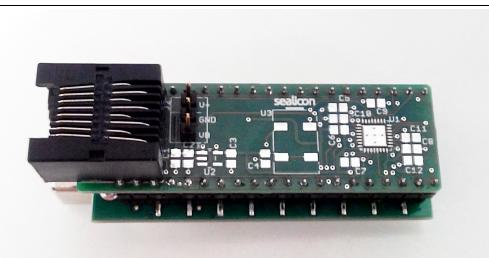

Figure 4: FGD-02F EVAL as gateway inserted on DLP2232H driver
3. Insert the FGD-02F EVAL board as gateway, with no FGD-02F sensors, onto the DLP2232H driver, as shown in Figure 4.